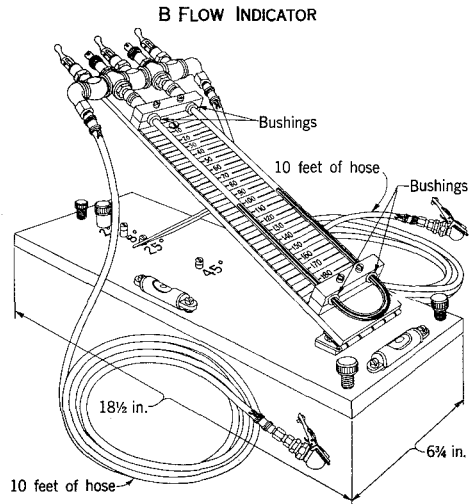

Fig. 1 — B Flow Indicator
2.01 The B Flow Indicator illustrated in Fig. 1 consists of an alcohol manometer mounted on an aluminum plate hinged to an aluminum base. Each end of the U tube is equipped with a 10-foot length of rubber hose and a snap-on air chuck for connecting the indicator to pressure-testing valves on the cable. The indicator is supplied in a wooden carrying case. The indicator and case weigh about 21 pounds.